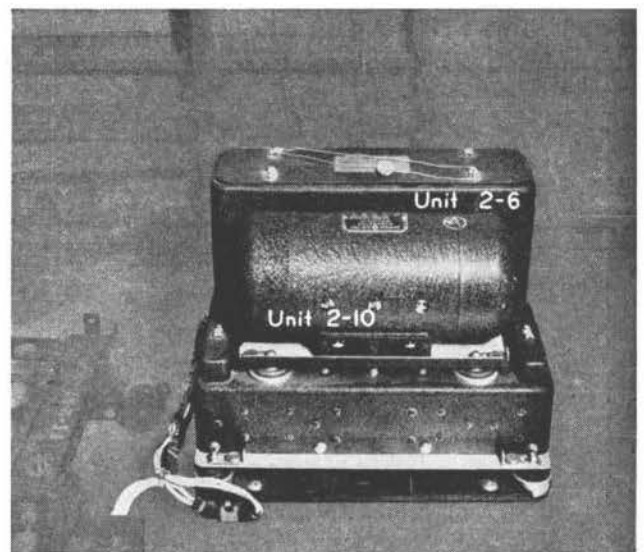
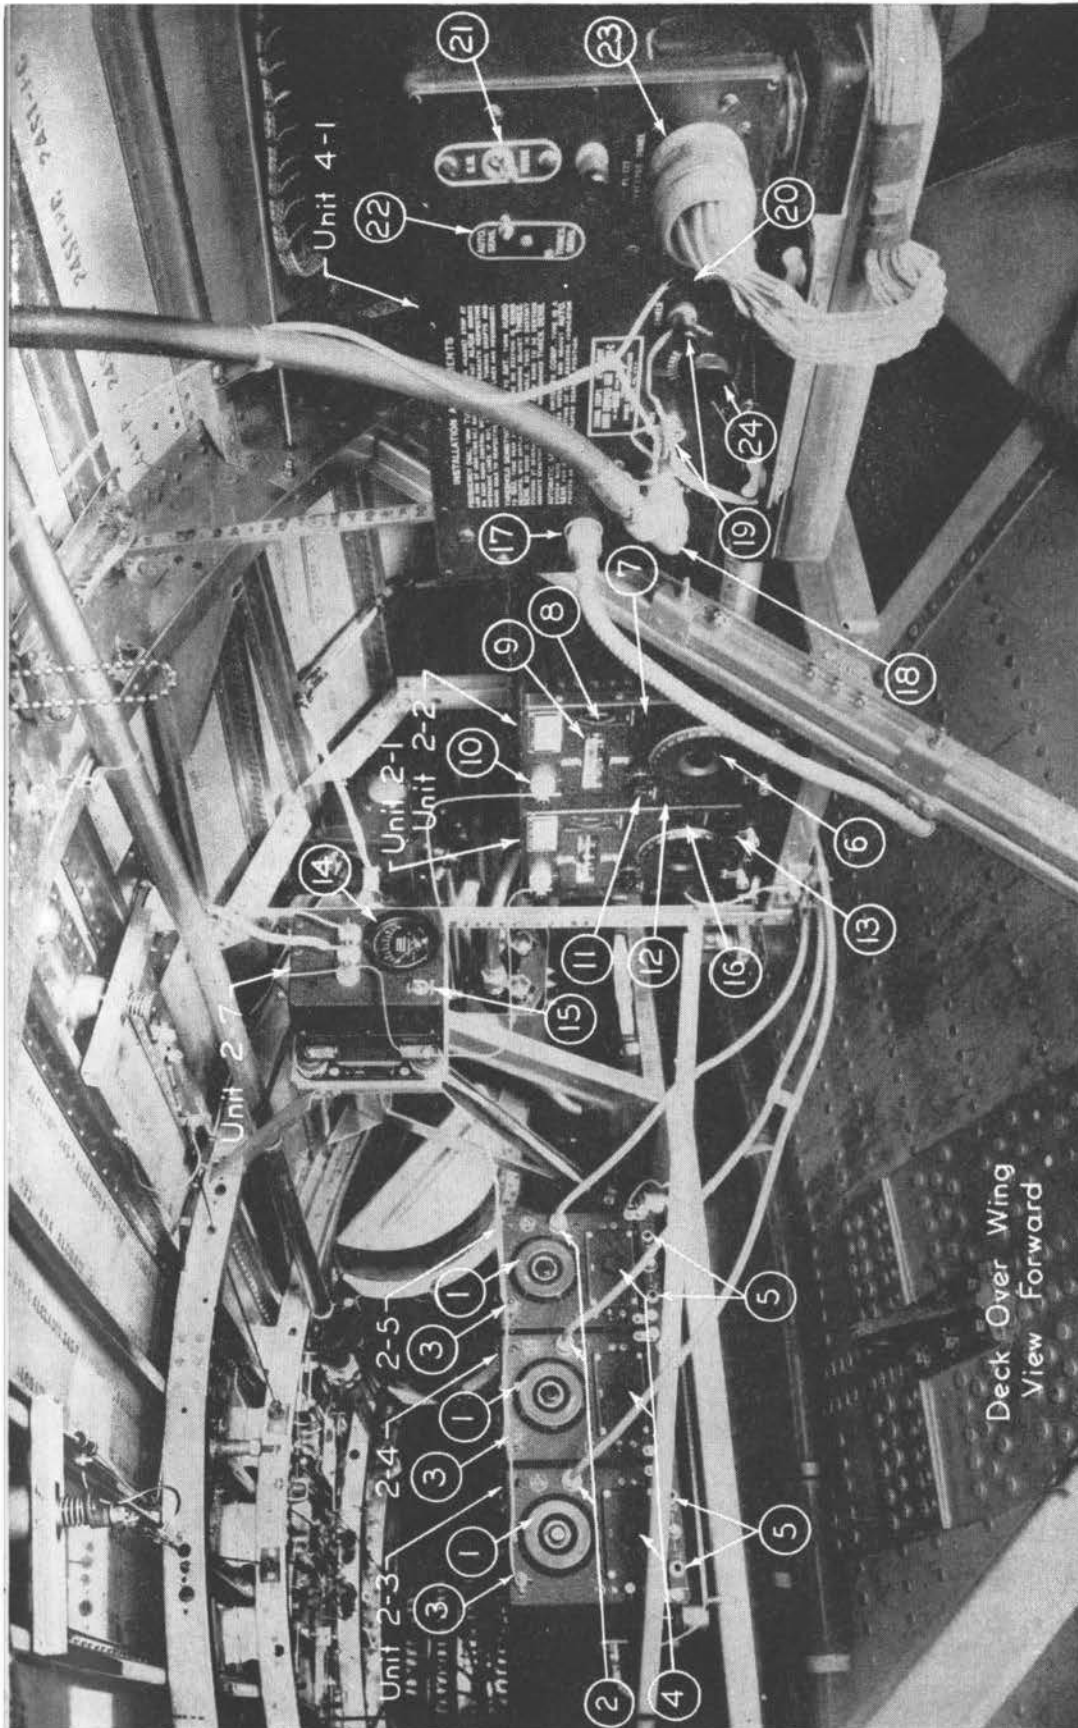
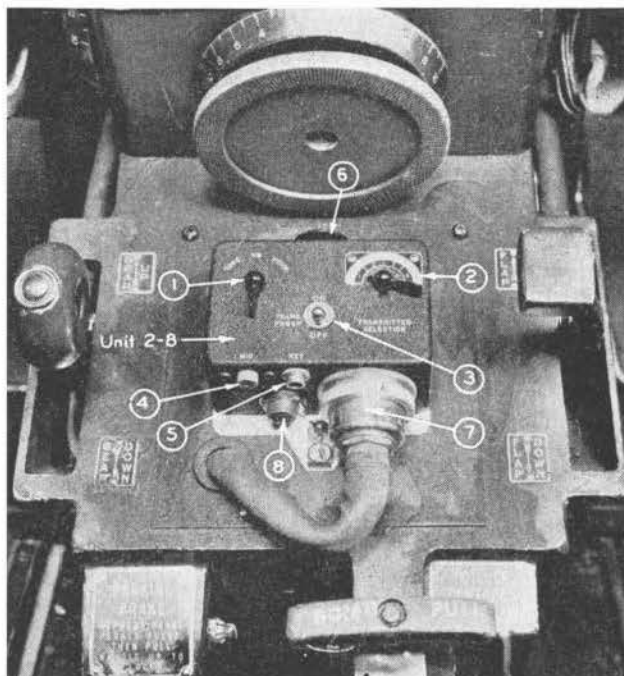

Figure 31. Command Modulator and Dynamotor
Figure 32. Radio Equipment over Wing Center Section
Figure 34. Command Transmitter and Interphone Power Control Box
- Unit 2-1** One BC-458-A Transmitter, Figure 32.
- 2-2** One BC-459-A Transmitter, Figure 32.
- 2-3** One BC-453-A Receiver, Figure 32.
- 2-4** One BC-454-A Receiver, Figure 32.
- 2-5** One BC-455-A Receiver, Figure 32.
- Unit 2-6** One BC-456-A Modulator Unit, Figure 31.
- 2-7** One BC-442-A Antenna Switching Relay, Figure 32.
- 2-8** One BC-451-A Transmitter Control Box, Figure 34.
- 2-10** One DM-33-A Dynamotor, Figure 31.
- 2-12** DM-32-A Receiver Dynamotors (3).
The BC-453-A, BC-454-A, and BC-455-A receivers, Units 2-3, 2-4, 2-5, and the BC-458-A and BC-459-A transmitters, Units 2-1, 2-2 (Figure 32), are mounted above the wing center section just aft of the life raft area. The BC-456-A modulator Unit 2-6 and the DM33-A dynamotor, Unit 2-10, are mounted aft of the compass receiver on the rack for the RADAR equipment (Figure 31).
of each control marked "A"- "B." For interphone station operation turn all three switches to position "A." On the face of the BC-451-A transmitter control Unit 2-8 (Figure 34), which is mounted on the pedestal, are three switches. The center switch (3) is marked "Trans. Power," "ON," "OFF." The switch (1) on the left has three positions marked "Tone-CW-Voice." On "Tone" a keyed signal modulated at approximately 1000 cycles per second can be transmitted. "CW" is for keyed transmission of an unmodulated signal. The third position is for voice transmission. Two positions on the right hand selector switch (2) connect to the two command transmitters. The other two positions are not used.
Tuning Up the Transmitters—There are three controls on the front of each transmitter: (1) the frequency control knob in the lower right corner marked "FREQUENCY," (2) the antenna tuning inductance control in the upper right section marked "ANT. INDUCTANCE," and (3) the coupling control in the middle left section marked "ANT. COUPLING." All receivers and transmitters should be connected to Antenna Relay Unit BC-442-A (Unit 2-7, Figure 32), and the antenna connected thereto, before the transmitters are tuned up. **Transmitters must be tuned up with the selector switch of the Radio Control Box BC-451-A (Figure 34) in the "CW" position, and must not be retrimmed after switching to "TONE" or "VOICE."** Such retrimming would result in greater